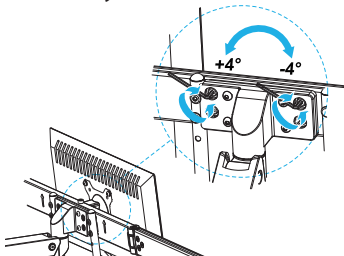

Figure 21
1. To adjust the angle of the **Crossbar, Centre** by **+4°** or **-4°**, use the **4mm Hex Key** to loosen the **Screws** (x 4) at the back of the **Center VESA Monitor Mount**. Make the necessary adjustment and tighten the **Screws** with the **4mm Hex Key** (x 4). (Figure 21)